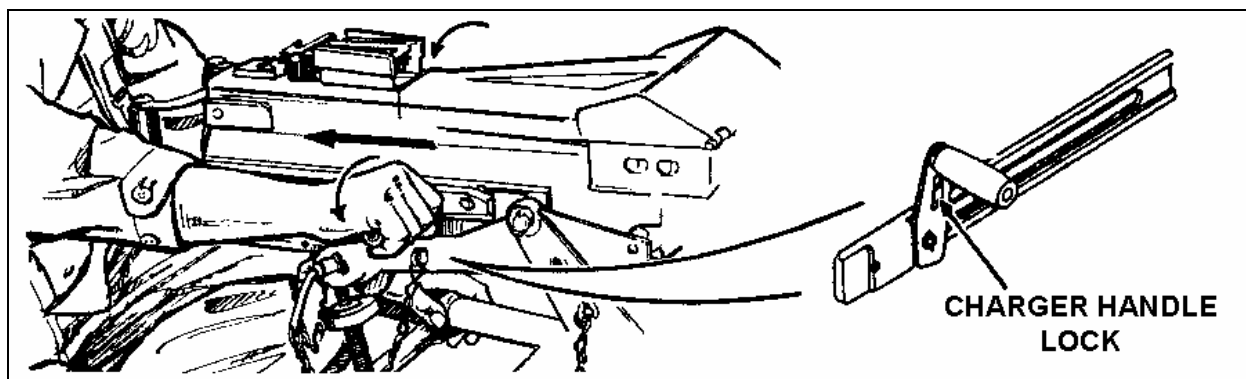

Figure 2-9. Charger handles.
(4) Insert a section of the cleaning rod or bayonet through either side of the receiver rail. Place it on top of the live round or cartridge case, as close to the bolt face as possible, and push down. This action forces the round out of the MK 19.
(5) Lower and pull both charger handles to the rear (Figure 2-9).